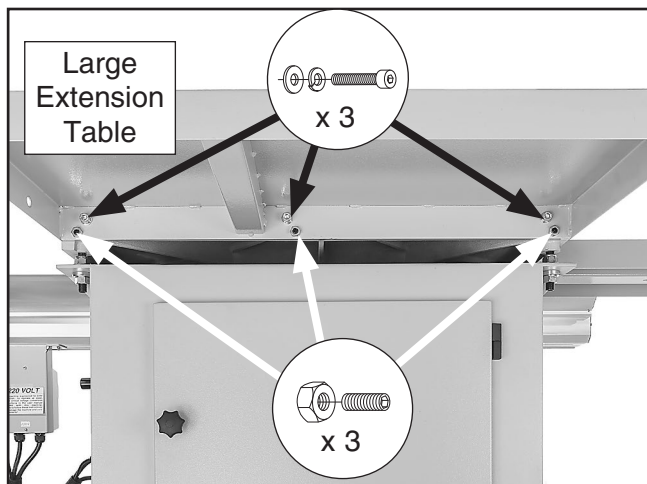

Figure 23. Large extension table attached to cabinet.
7. With help from another person, attach large extension table to cast-iron table with (3) M10-1.5 x 25 cap screws, (3) 10mm lock washers, and (3) 10mm flat washers (see **Figure 23**). Finger-tighten only, for now.
8. Thread (3) M10-1.5 x 20 set screws with (3) M10-1.5 hex nuts shown in **Figure 23**.
— If both tables are *not* parallel with straight-edge, loosen hex nuts on set screws shown in **Figure 23**. Adjust set screws to align top of extension table with top of cast-iron table, then re-tighten hex nuts to secure setting.